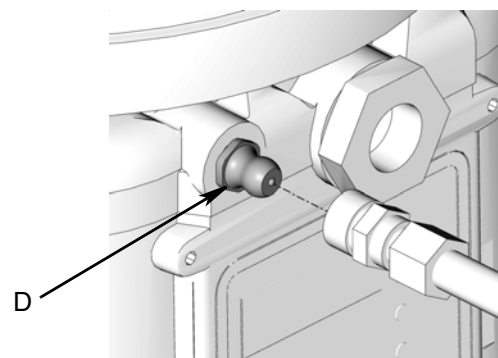

FIG. 22
- Always clean inlet fitting (D) (FIG. 22) with a clean dry cloth prior to filling reservoir. Dirt and/or debris can damage pump and/or lubrication system.